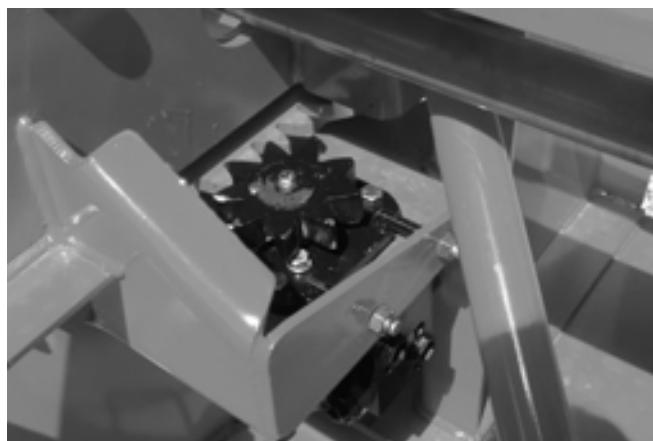

Figure 26
- 3) Bolt hydraulic motor in place pointing the oil outlets to the exterior and install sprocket (Fig. 26).